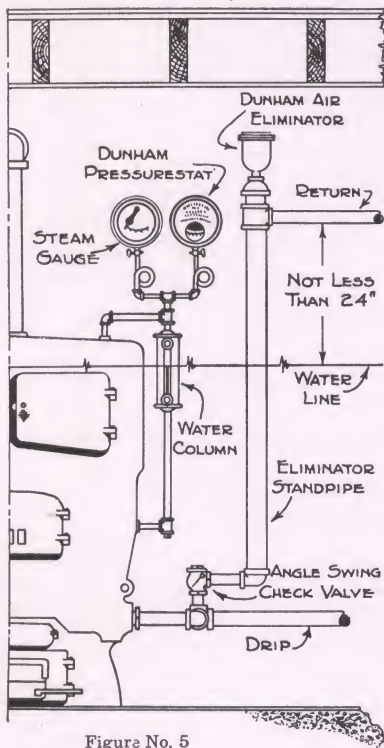

Figure No. 5
An angle swing check valve should be installed in vertical stand pipe as per detail Figure No. 5. If it is impossible to secure an angle swing check, then a *horizontal swing check* may be used instead. *Never* use a vertical check valve.
**IMPORTANT.** The end of the main return in the boiler room should be at least twenty-four (24) inches above water line of boiler and as much greater as possible. See Figure No. 5.
The Dunham Air Eliminator has a capacity for removing the air from 2000 square feet of direct radiation. One or more eliminators, as may be required, should be installed on the vertical stand pipe where return main drops to return header of boiler, as per Figure No. 5.
**Pressurestat** Place the Pressurestat beside the steam gauge, installing same with syphon or "pig tail" and gauge cock. Pressurestat should be above all parts of the piping which connects it to the boiler so as not to be affected by any head of water. It can be installed above the water column as suggested in Figures No. 5 and 9. It is very important that the gauge cock which comes with the Pressurestat be installed in the connection between it and the boiler. If system is given a blowing off, after installation of Pressurestat, be sure to shut off the gauge cock between it and boiler to avoid allowing excessive pressures to come in contact with it.
**Wiring Pressurestat and Damper Motor** A long piece of three-wire cable will be found in box for this purpose. Remove insulation for one (1) inch on each end of three wires on both ends of cable. Take either end and connect to Pressurestat as follows: The red wire to the post marked "Red," the white wire to the post marked "White," and the blue wire to the post marked "Blue." Be sure to see that each connection is solid and well taped to prevent short circuiting.